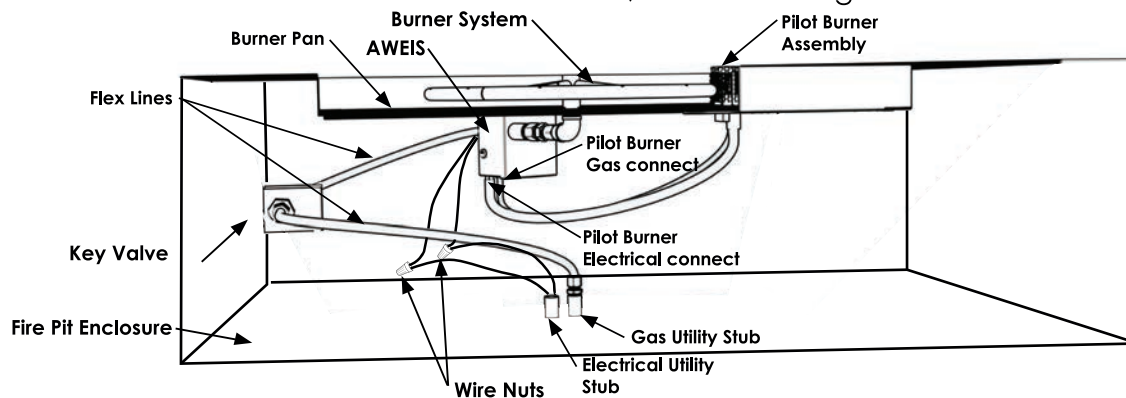

FIG. 8-2
1. Apply gas approved pipe joint compound to the gas stub and thread the flex line, connecting the gas stub to the key valve as illustrated in Fig. 8-2.
2. Using two adjustable wrenches, tighten the fitting on the top side of the AWEIS to the burner system fittings (See Fig. 8-2).
4. Using wire nuts, connect the two wires from the AWEIS to the two wires from the electrical conduit stub as shown in Fig. 8-2.
6. On the side of the AWEIS there are two connections for the Pilot Burner Assembly. The white 'quick connect' is the electrical connection and the brass plumbing fitting is the gas connection. Make these connections now, as shown in Fig. 8-2.